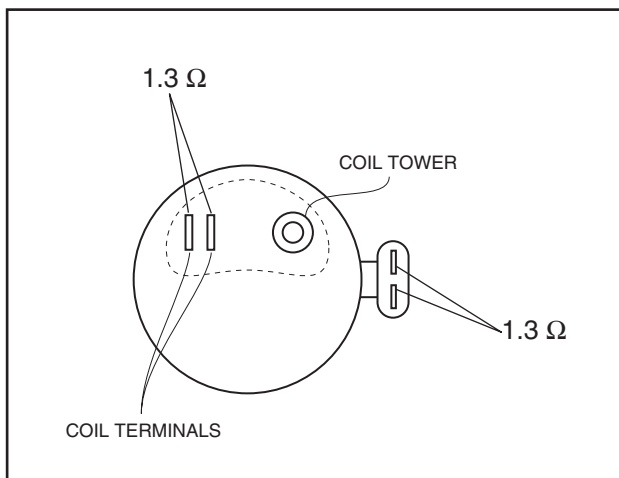

Figure 10. Testing Primary Winding Resistance
- To test the coil primary winding, connect the test probes of an ohmmeter (or VOM) across the terminals of the coil and read the resistance (see Figure 10). A reading of approximately 1.3 ohms ($\pm 10\%$) should be measured at 68°F (20°C).